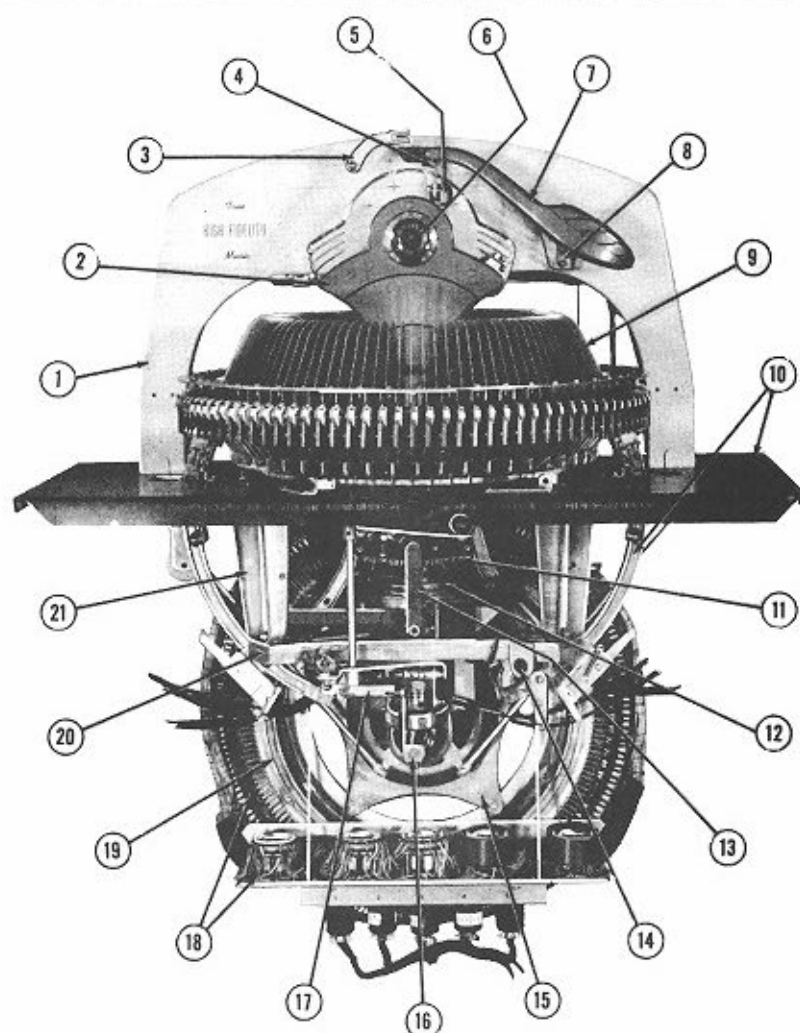

Fig. 44. MODEL 2000 RECORD CHANGER (FRONT VIEW)
The Wurlitzer Model 2000 record changer (Fig. 44) is scientifically designed and fabricated. It is calculated to function without interruption throughout its service life. All components and systems have been carefully factory-adjusted and tested, thus minimizing the possibility of breakdown or malfunctioning. The record changer accommodates 100 seven inch, 45 R.P.M. records, which provide a choice of 200 selections. Outstanding features of the Model 2000
Five major assemblies, or groups of assemblies make up the record changer, Figure 44. The top support casting assembly (Item 1) includes the turntable assembly, the tone arm assembly, and the turntable motor and bracket assembly. Item 2, the record carrier assembly. Item 3, the chassis mounting plate and record lift arm assembly. Item 4, the chassis frame assembly, includes the main shaft assembly and the selector casting assembly. Item 5, the electric selector and group relay assembly. Each
The sub assemblies and components of the top support casting assembly (See Figs. 44 and 45) are as follows:
A bracket on the right front side of the top support casting mounts the tone arm assembly (Fig. 44). The complete tone arm assembly consists of the tone arm casting, mounting casting and pin assembly, gimbal and stop nut assembly, feed-in guide bracket, counterweight, speed clip, and output wiring harness.
(3) Tone Arm Release Lever and Bracket Assembly (Fig. 44).
The tone arm release lever is mounted behind the tone arm on the upper right side of the support casting (Fig. 44). The function of the release lever is to guide the tone arm needle to the feed-in groove of the record to be played. The tone arm release and feed-in lever function to guide the tone arm through the tone arm feed-in guide bracket. The feed-in adjusting screw is located in one end of the tone arm release bracket and functions to engage the needle with the feed-in groove of the record.
(6) Turntable Shaft and Record Clamp Assembly (Figs. 44 and 45).
(8) Tone Arm Brush Assembly (Fig. 44).
b. Record Carrier Assembly (Fig. 44).
c. Chassis Mounting Plate and Record Lift Arm Assembly (Fig. 44).
Although the record lift arm assembly may be considered a sub assembly, it is included in the chassis mounting plate and lift arm assembly. The record lift arms are attached to the chassis mounting plate by a bracket and three screws. The chassis mounting plate supports the top support casting, the record changer motor and the chassis frame assembly. The chassis frame assembly is hung from the chassis mounting plate by three chassis frame supports shown in Figure 44. Two backstop pawls and the loading levers and switch are mounted at the front of the chassis mounting plate. The loading lever and linkage turns off power to the changer motor and releases the selector crank from engagement with any selector pins which may be released. The record carrier is thus free to be rotated for changing of records.
(1) Link and Lever Assembly (Fig. 44).
(8) Cancel Mechanism (Fig. 44).